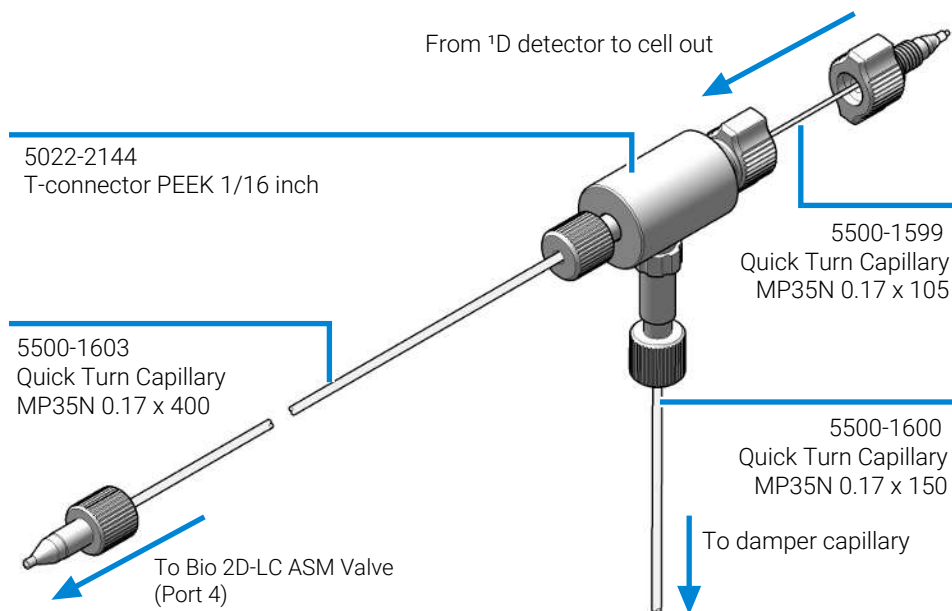

Figure 51: Connections to the pressure release kit
- 5 Connect with the T-piece, see Figure 51 on page 105.